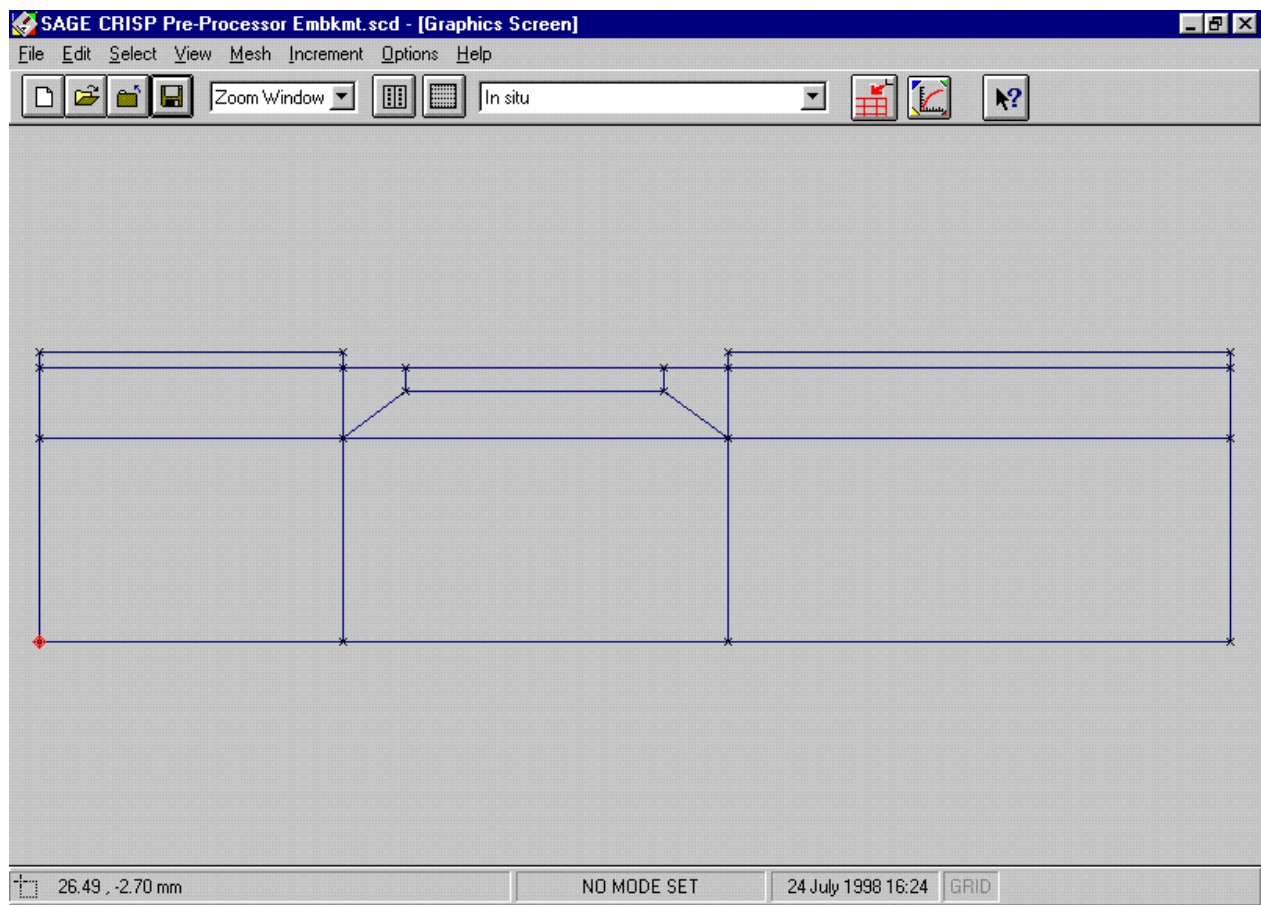

Figure 6-6: Structured Super Mesh
Step 6 When you have finished, you should have eleven four sided super elements in a mesh identical to that shown in Figure 6-6.